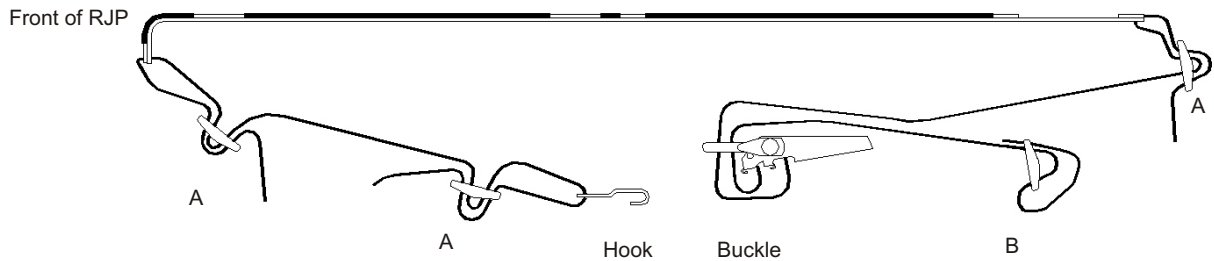

Figure 2: Assembled RJP with mounting straps
RJPs are shipped with the straps fully assembled, but the straps may come apart during shipping. See Figure 2 for the proper way to feed the straps through the metal fasteners.
3. Adjust the fasteners at the positions marked A in Figure 2 to allow the straps to go around the block and the hook to re-attach to the buckle.